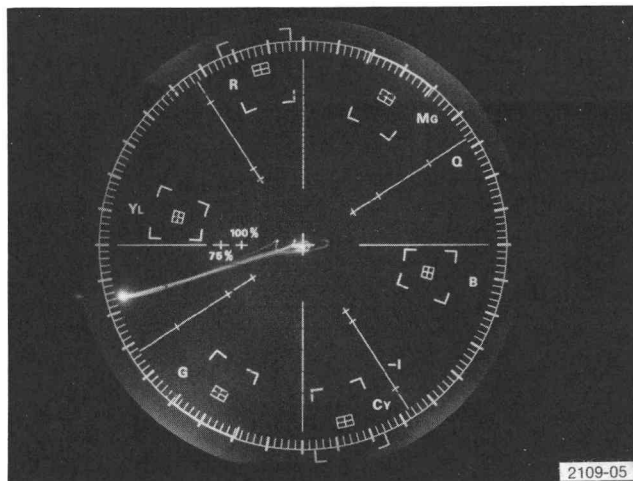

Fig. 4-2. Chrominance Bandpass Filter adjusted for best vector overlay.
c. Adjust—L938 and L948 (Chrominance Bandpass Filter) for best overlay; see Fig. 4-2.